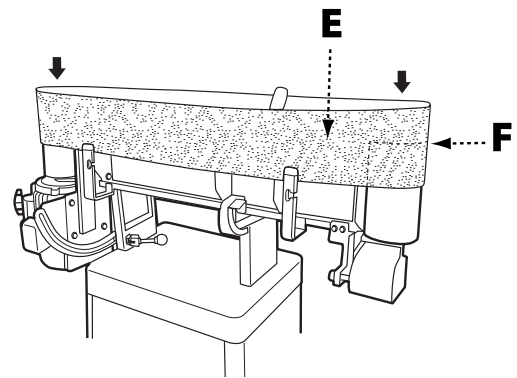

FIGURE 5
2. Open the cabinet door and, from inside the cabinet, feed a 5/16 inch x 1 1/4 inch hex cap screw up through both holes and secure using a 5/16 inch lock washer and 5/16 inch flat washer. See Figure 5.
6. Fit the belt onto the sanding platen so that the edge of the belt (E) is even with the edge of the rollers (F) as shown in Figure 5.